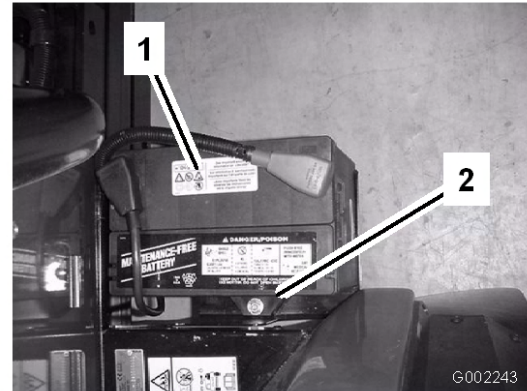

Figure 46
2. Remove the battery retainer and fasteners (Figure 46).
3. Install the battery retainer and secure it with the fasteners you removed previously (Figure 46).